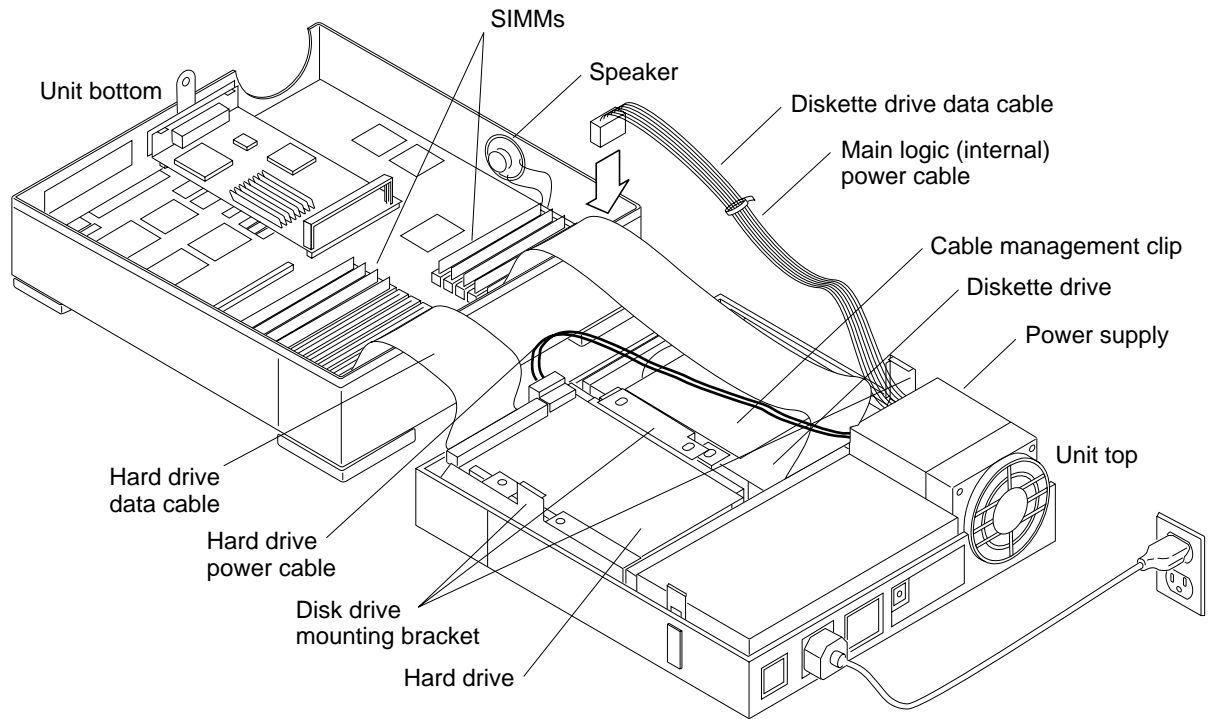

Figure 4-7 Open View of the Unit
The disk drive bracket resides in the top part of the system unit in front of the power supply (see Figure 4-7). It houses the diskette drive supplied with the unit and has space for an optional hard disk drive. You *must* remove the disk drive mounting bracket before removing either the diskette drive or hard drive. Refer to Figures 4-7, 4-8, and 4-9 for the location of the disk drive mounting bracket and the screw securing it to the system.
7. **Disconnect the diskette drive data cable and the hard disk data cable (if a hard disk is present) from their connectors on the main logic board. (See Figures 4-7 and 4-10).**